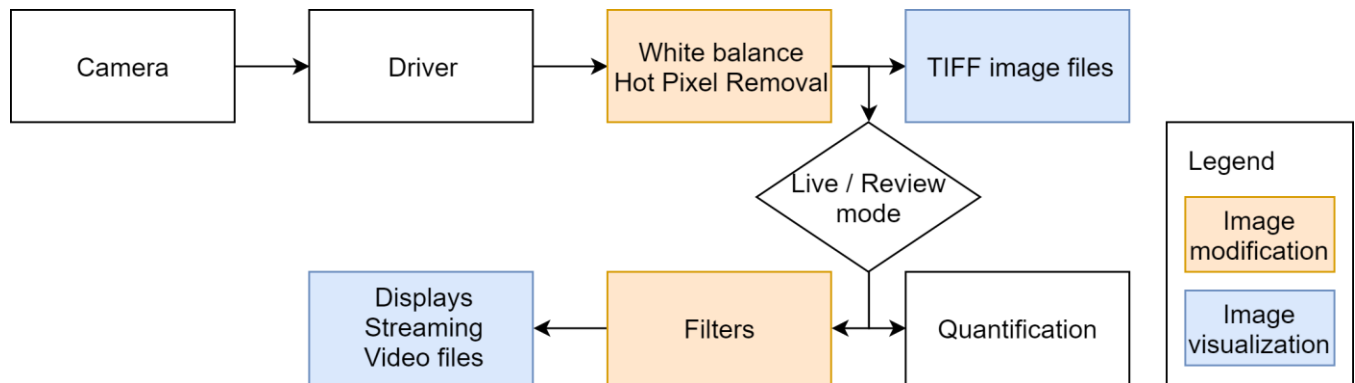

Figure 1: Data flow for the images
**Figure 1** below shows the path followed by the images throughout the software. Images saved to disk are not modified, except for the cold / hot pixel removal for the IR channels, which only compensates for hardware defects in the camera, image transformations such as rotation and mirroring and white balance for the Visible channel (can be deactivated in Hardware Settings). The same goes for ROI analysis: only the raw data is analyzed and saved.